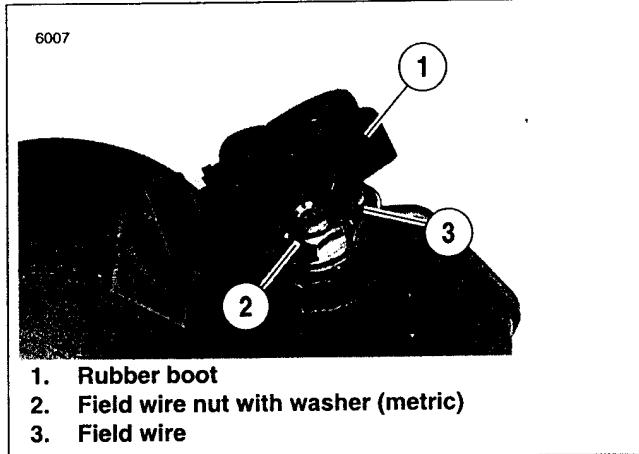

Figure 5-12. Field Wire
2. See Figure 5-12. Lift rubber boot (1). Remove field wire nut with washer (2) (metric) to detach field wire (3).